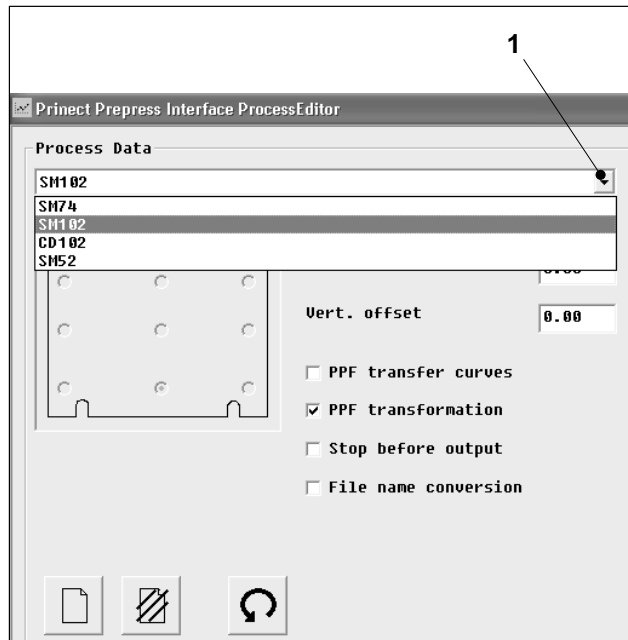

Fig. 30 Selecting a process
1. Select the process you wish to edit from the drop-down list box (Fig. 30/1) in the *Process data* section.